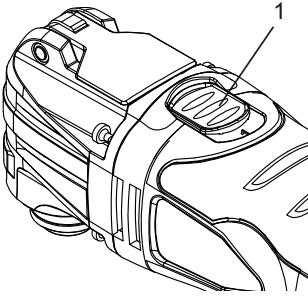

Fig. 6
1. To turn the tool ON, slide the ON/OFF switch (1) toward the front of the tool (Fig. 6).
5. Turn the tool ON (Fig. 6 on Pages 10 & 11).
5. Turn the tool ON (Fig. 6 on Pages 11 & 12).
4. Turn the switch ON (Fig. 6 on Pages 10 & 11).
3. Turn the switch ON (Fig. 6 on Pages 10 & 11).